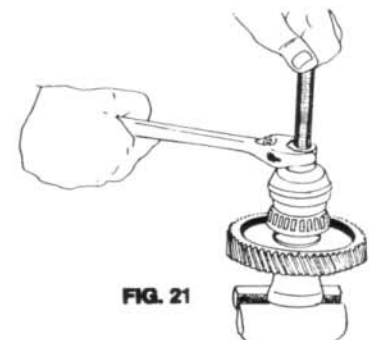

FIG. 21
7. Place **THRUST BEARING** and **5/8 NUT** onto **PULLER SHAFT**, and tighten until new cone is pressed in to correct depth. (Fig. 21)